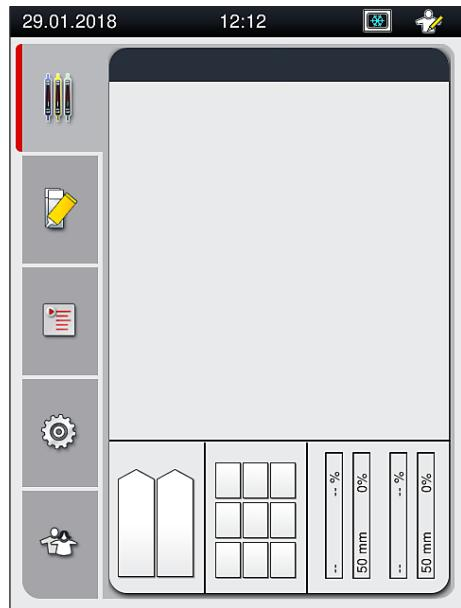

Fig. 13
7. After completing the initialization phase, the **Main menu** (\rightarrow Fig. 13) appears on the screen.